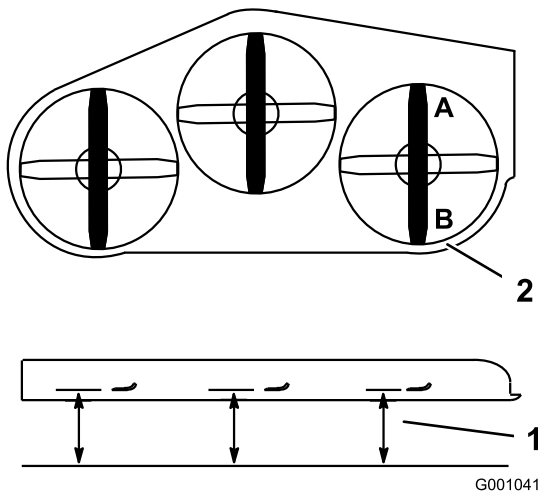

Figure 78
- Position the **right** blade front-to-rear (Figure 78).
- Measure the right blade at the **A** location, from a level surface to the cutting edge of the blade tip (Figure 78).
- Measure the right blade at the **B** location, from a level surface to the cutting edge of the blade tip (Figure 78).
- The mower blade should be a 1/4 to 3/8 inch (6 to 10 mm) lower at position **A** than at position **B** (Figure 78). If it is not correct, proceed to the following steps.